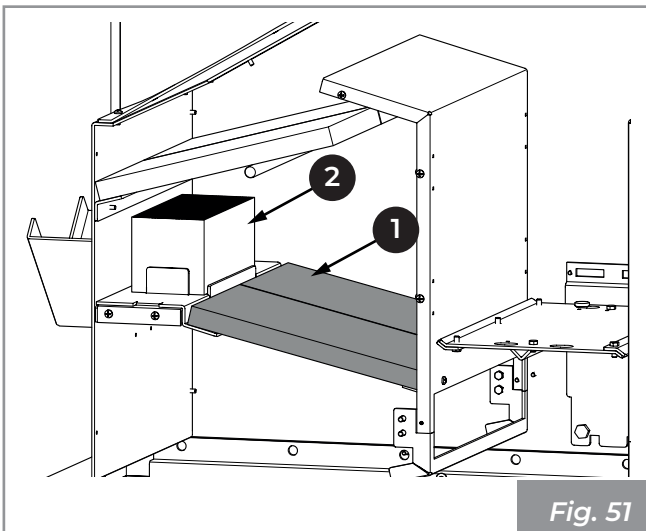

Fig. 51
- 5) Slide out and extract the panels (1) (Fig. 51).
- 6) Slide out and extract the O-RING (2).